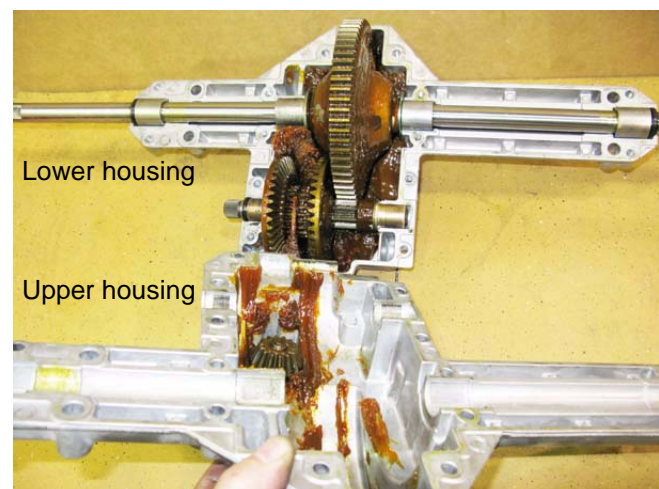

Figure 5.65
8. Separate the two housings. See Figure 5.65.